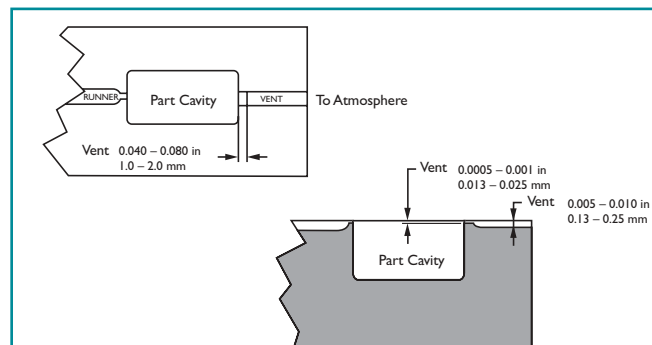

Figure 6. Example of appropriate venting.
**Figure 6** provides an illustration of appropriate venting.